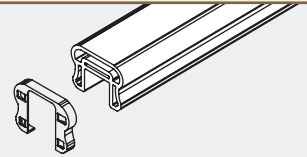

Fig.15-1 - Install gaskets over top rail ends
- IF USING GASKETS install over rail ends (Fig.15-1)